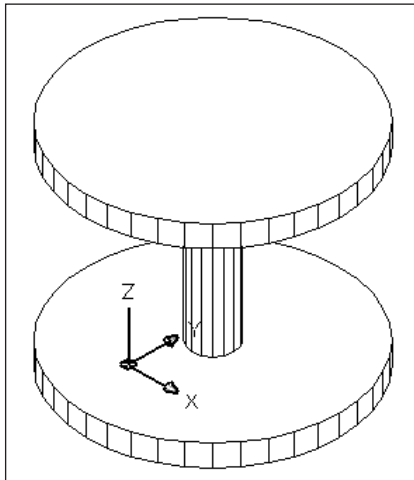

Figure 21-15: A cable spool created by drawing 2D circles with thickness and elevation
12. Save your drawing. It should look like Figure 21-15.
Except for certain true solids, much of 3D work starts with a 2D shape. However, the 2D drawing commands can be drawn only on, or parallel to, the XY plane. The spool in Figure 21-15, for example, consists of three circles, all parallel to the XY plane. How do you draw a circle, or any other 2D object for that matter, that is not parallel to the XY plane?